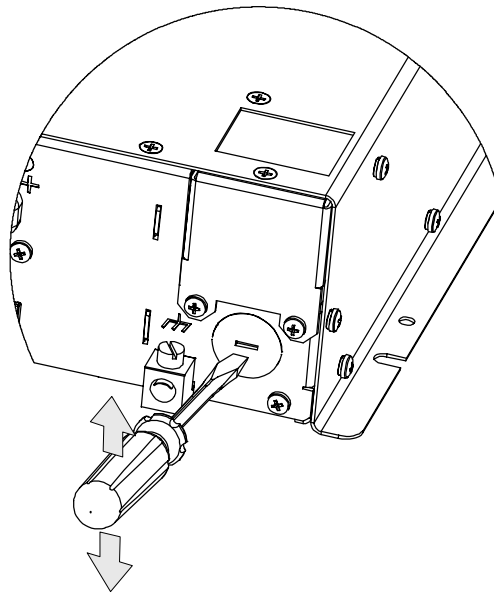

Figure 2-6 Removing the Knockout
2. Remove the knockout using a slot screwdriver as shown in Figure 2-6. Do not leave the knockout inside the wiring box.